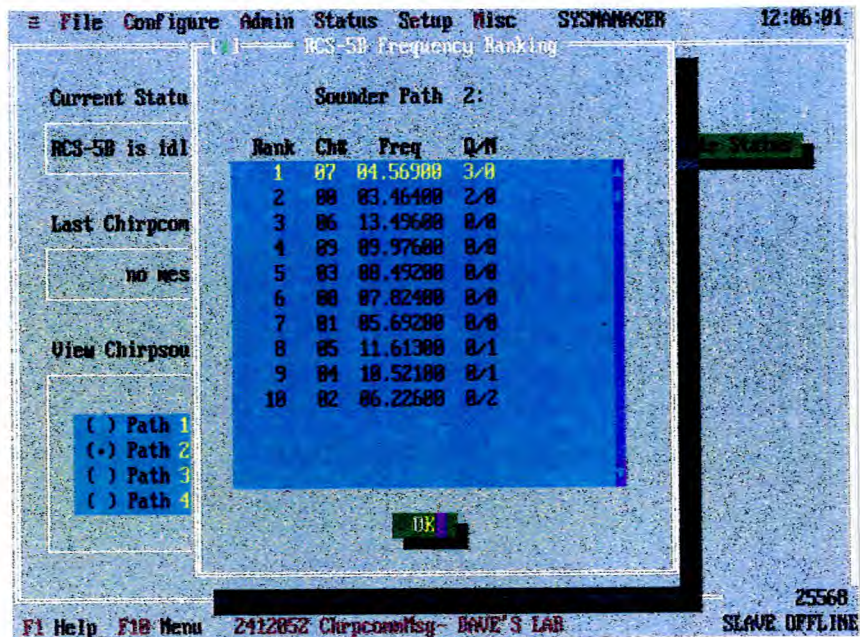

Fig 42
4.5 For FREQ RANKING, select FREQ RANKING, select the path number and select VIEW. A display similar to Fig 42 is obtained ("RCS-5B Frequency Ranking"), where Ch# represents the channel number from the frequency list (see SETUP functions).